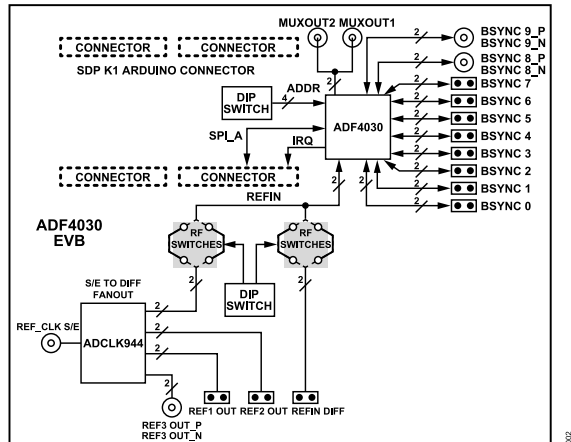
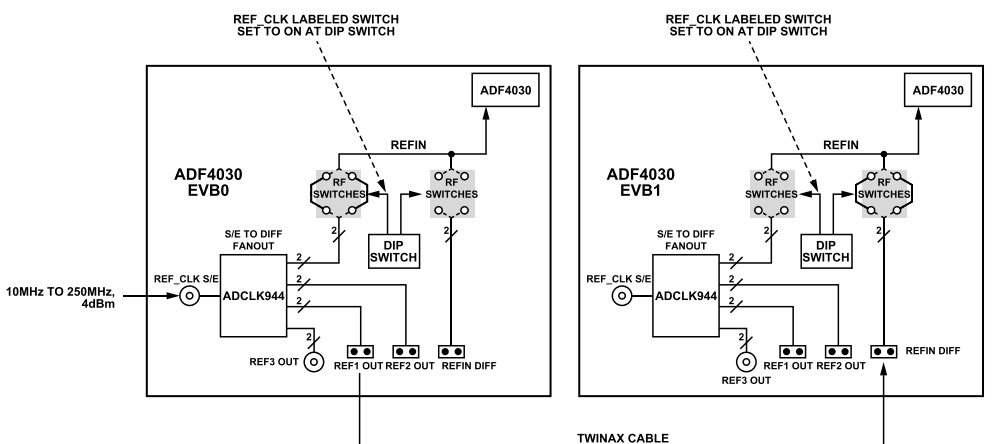

Figure 2. EV-ADF4030SD1Z Evaluation Board Block Diagram
Figure 7. Transmitting REFIN Clock from One EV-ADF4030SD1Z to Another Using a Twinax Cable
Figure 2 presents the block diagram of the EV-ADF4030SD1Z.
The EV-ADF4030SD1Z has two ways to create the ADF4030 REFIN clock, a clock between 10 MHz and 250 MHz (see Figure 2) as follows:
- Using a J1 Subminiature Version A (SMA) connector (REF_CLK S/E in Figure 2). Apply a 4 dBm signal, which means a 1 V p-p clock. A 50 Ω load resistor to ground (R1) is populated on board.
- Using a P1 twinax connector (REFIN DIFF in Figure 2). Apply a 320 mV p-p to 2 V p-p differential voltage. This must be a AC-coupled input to the ADF4030. This connector is suitable for connecting the reference clock from another EV-ADF4030SD1Z (Figure 7).
If multiple EV-ADF4030SD1Z evaluation boards need to work together, provide one clock at REF_CLK S/E connector at one evaluation board: EVB0 in Figure 7. Then, use a twinax cable to connect one of REF1 OUT (P3 connector) or REF2 OUT (P2 connector) to REFIN DIFF (P1 connector) of the other evaluation board (EVB1 in Figure 7). Set the EVB0 REF_CLK switch to on and the EVB1 REFIN switch to off.